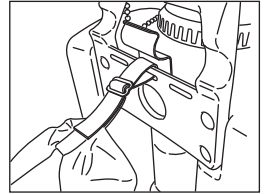

Figure 3.
4. Install the single strap of the shoulder straps through the center slot of the carry handle. Pull the strap over the bar and secure through the buckle. **See Figure 3.**